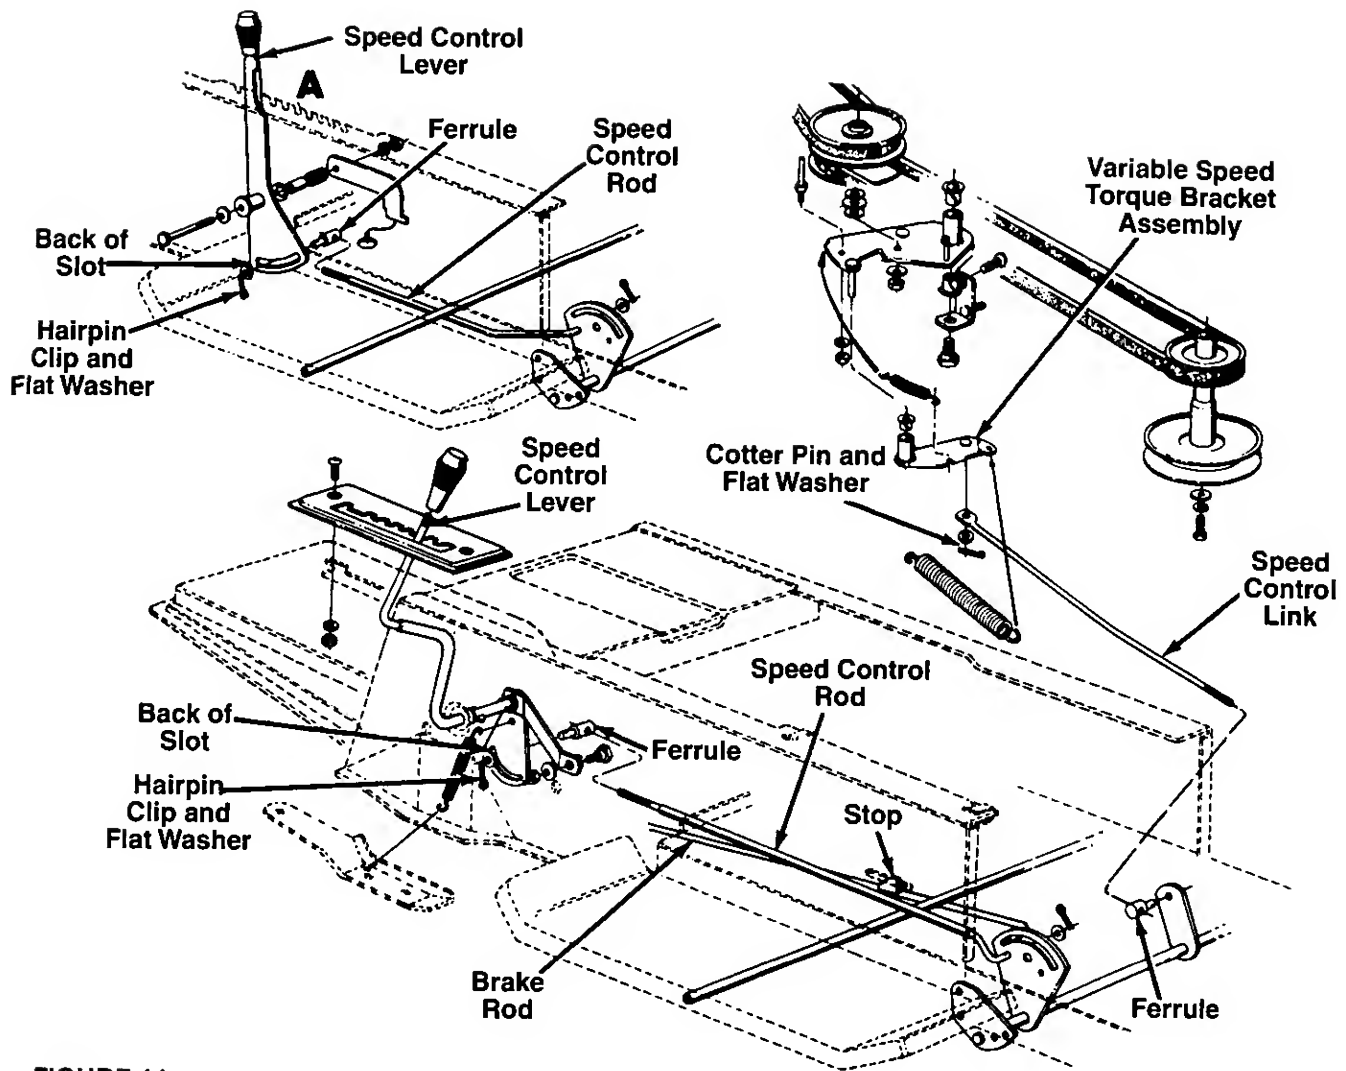
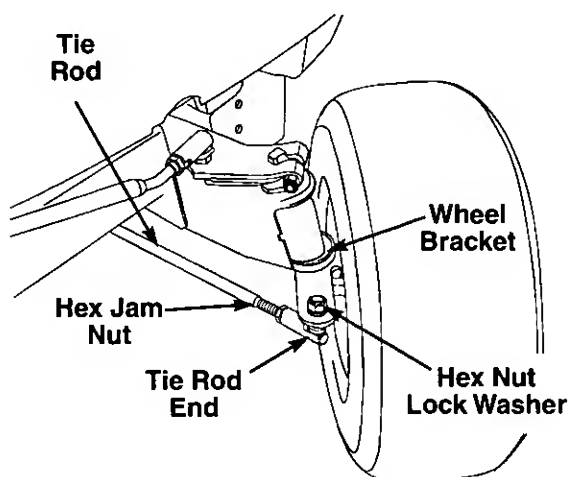

FIGURE 11.
FIGURE 13.—Units with adjustable tie rods
SPEED CONTROL ADJUSTMENT (See figure 11)
1. Adjust the speed control lever by pushing the clutch-brake pedal forward until the stop on the brake rod is against the frame. See figure 13. Have another person hold the pedal in this position as you make the following adjustment. Place the speed control lever in parking brake position. Remove the hairpin clip and flat washer, and adjust the ferrule on the rod so it is against the back end of the slot. See figure 11. Then lengthen rod one more turn. Reassemble and secure with the flat washer and hairpin clip.
1. Remove the hex nut and lock washer, and drop the tie rod end from the wheel bracket. See figure 13.